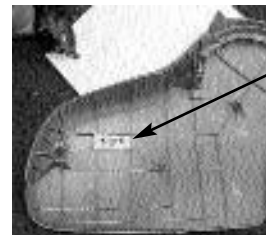
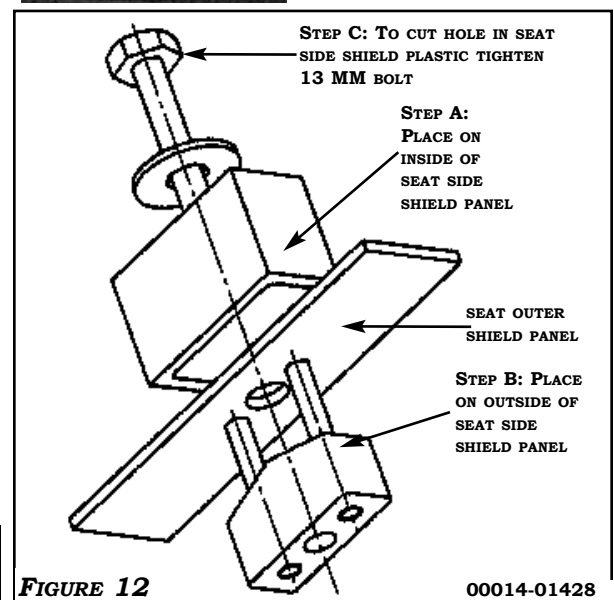

FIGURE 11
FIGURE 12
2. PLACE CUT OUT TEMPLATE IN CORNER OF RIB MATRIX (FOR PLACEMENT CONSISTENCY) AS SHOWN IN **FIGURE 11**.
3. DRILL (2) 13/64 DIA. HOLES AND (1) 11/32 DIA. HOLE THROUGH TEMPLATE.
4. CUT HOLE IN SHIELD USING 00014-01428 TOOL. INSERT DIE THRU 13/64" HOLES AND PLACE TOOL WITH BOLT ON OPPOSITE SIDE OF PLASTIC. WITH 13MM SOCKET, TIGHTEN THE BOLT UNTIL PLASTIC HOLE IS CUT. **FIGURE 12**
1. POSITION TEMPLATE IN RIB MATRIX PER **FIGURE 11** (*SEQUOIA*), **FIGURE 15** (*TUNDRA*). DRILL AND USE TOOL PER SECTION A ABOVE TO CUT OUT OPENING FOR SWITCH.